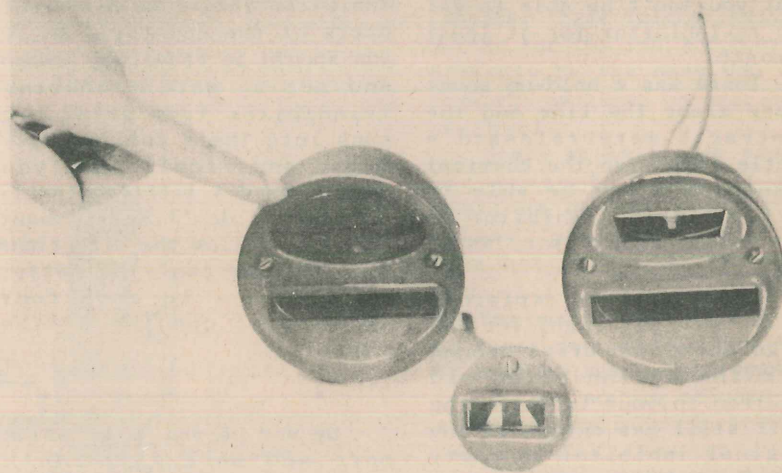

Fig. 1 - The Combat Zone Safety Lights after the changeover: the left and right tail lights and (center) one of the new doors for the front marker-lights.
The new lights that will replace the old are called 'Combat Zone Safety Lights.' You'll recognize them as being the same lights now on your late-model vehicles. (Figs. 1 & 2).
(B) Before installing the two sealed units, the orders are to *switch the positions of the bottom and top contact plugs so that the service-stop and tail is on top* (Fig. 1). To do this, take out (from the rear) the double-contact plug which is now in the bottom half of the housing and move it up to the top (Fig. 4). Move the single-contact plug to the bottom.
Slip in the sealed units - the service-stop-and-tail (egg-shaped red lens) on top, and the blackout tail on the bottom. Check with Fig. 1 to be sure you've got the right unit in the right place. You'll find that the new units don't fit the housing quite as snugly as you'd expect - but don't worry about it - put on the new door and screw it down.